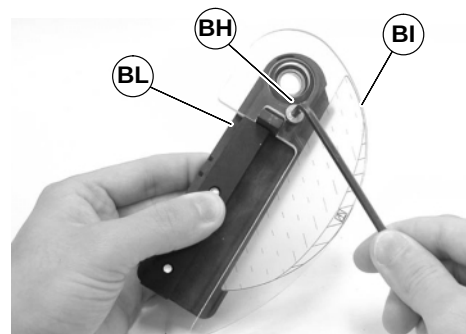

Figure 44
1. Install sag guard (BI of Figure 44) to headplate (BL) with screw (BH). Repeat for opposite headplate.